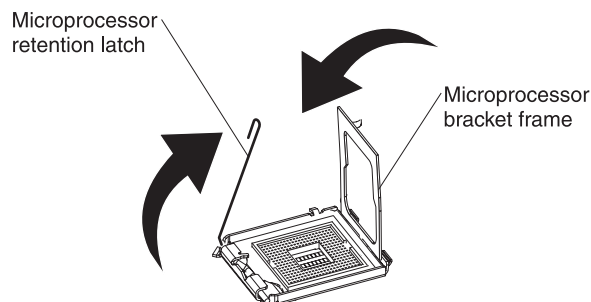

Figure 56. Microprocessor bracket frame
3. Close the microprocessor bracket frame; then, close the microprocessor retention latch and lock it securely in place (see Figure 56).